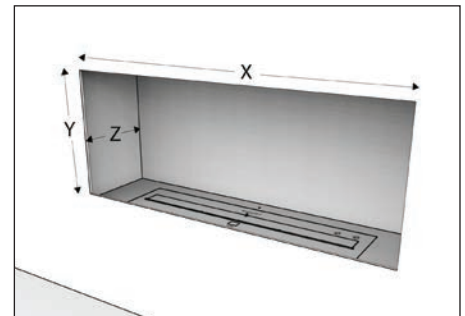

Fig.1
A. FIREBOX MEASUREMENTS FOR "WITHIN A FIREBOX" INSTALLATION (Fig. 1)